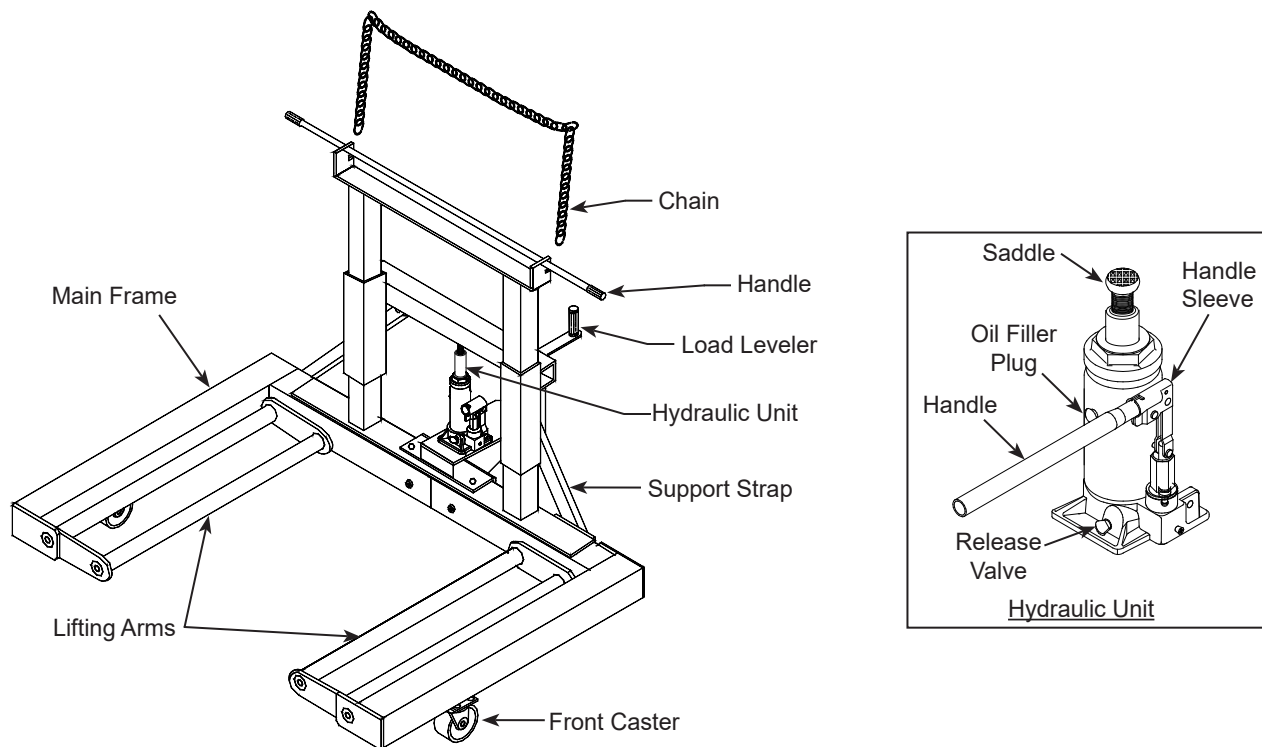

Figure 1 - Wheel Dolly Components
Assembly (refer to Fig. 1 & 2)
1. Verify that the product and the application are compatible, if in doubt call Blackhawk tech. service (816) 891-6390.
3. To familiarize yourself with basic operation; position the hydraulic unit upright as shown in Fig. 1, engage the release valve with the slotted portion of the provided handle, then turn the release valve:
5. Place the hydraulic unit to the wheel dolly as shown in Fig. 1. Position the hydraulic unit such that the saddle mates with the provided indentation.